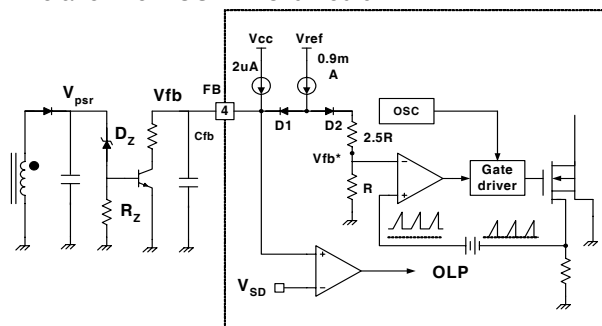

Figure 23. Pulse-Width Modulation (PWM) Circuit
**2. Feedback Control:** FS8S0765RCB employs primary side regulation, which permits elimination of feedback circuit components in the secondary side, such as opto-coupler and TL431. Figure 23 shows the primary side control circuit. The primary side regulation voltage ( $V_{psr}$ ) is controlled to the breakdown voltage of zener diode ( $D_z$ ). Because current mode control is employed, the drain current of the power MOSFET is limited by the inverting input of PWM comparator ( $V_{fb}^*$ ). When MOSFET turns on, usually there exists high current spike in the MOSFET current caused by primary-side capacitance and secondary-side rectifier reverse recovery. To prevent premature termination of the switching pulse due to the current spike, the FPS employs leading edge blanking (LEB). The leading edge blanking circuit inhibits the PWM comparator for a short time after the MOSFET is turned on.